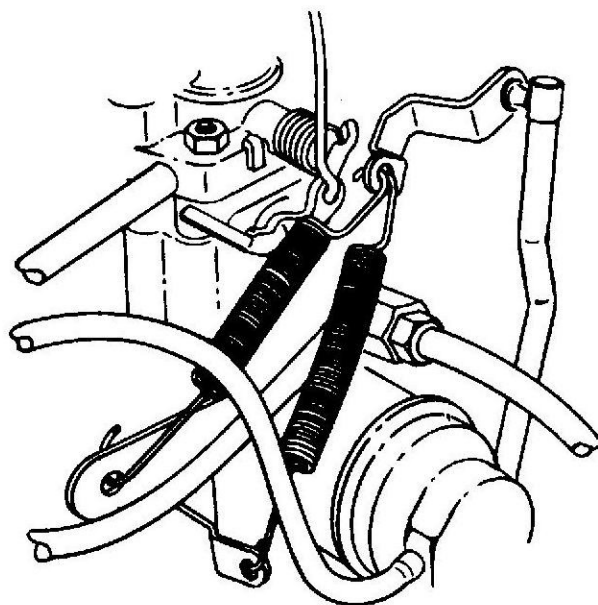

Fig. 1 Carburetor Return Springs
- (1) Connect short end of accelerator return spring into carburetor lever-to-accelerator cable bracket (in same hole as existing spring) (see Figure 1).
- (2) Connect long end of accelerator return spring into forward hole of carburetor pull back spring bracket (see Figure 1).
- (3) Check throttle operation.